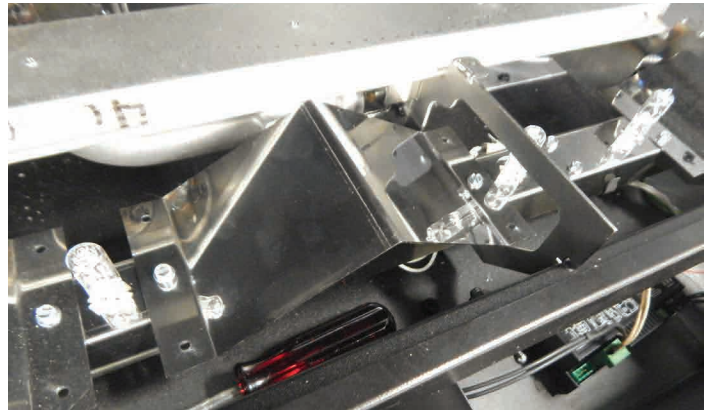

Figure 13
- Install the (5) Halogen light bulbs into the Light bar sockets. When installing, take care not to touch the bulbs with your fingers directly, but use the protective plastic bulb packaging for protection from oils, etc. Take extra care when installing the bulbs. Do not force the bulbs into the sockets. **See Figure 13.**